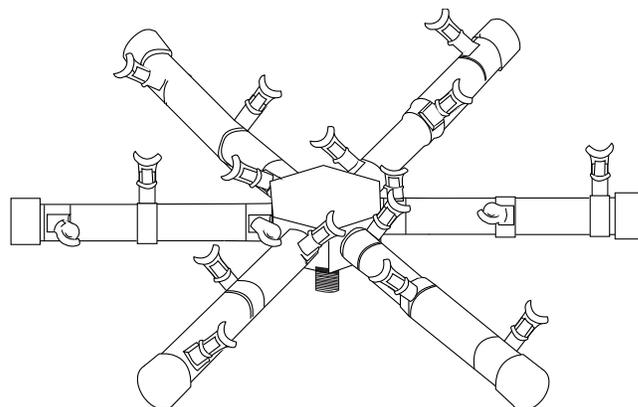

Fig. 5 Shows burner with nipple installed.
All Burning Spurs come ready to install and have a ½" female center nipple. The Burning spur must be installed as shown in Fig. 5 with center nipple facing downward. Ensure to seal each NPT fitting with thread tape or pipe compound.
**Step 1:** Install the nipple into the Pro Spur burner (Fig. 5).